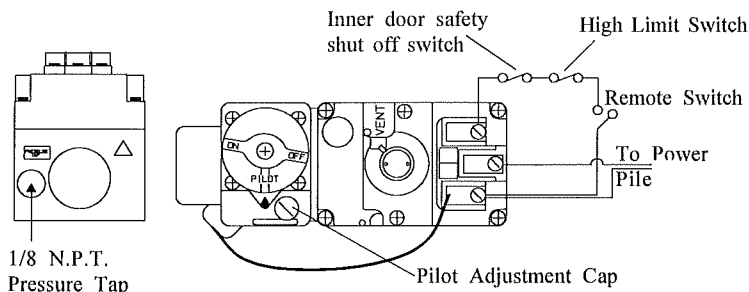

FIGURE 8. GAS CONTROL VALVE
The **Montigo 36SH** is equipped with a remote-operated valve, located behind the removable brass grille, to the right of the gas control valve (refer to figure 8.) The valve is pre-wired and completely self contained to generate its own power **DO NOT** connect any external power to it. **Note:** The switch location must not exceed 30' from fireplace.
To light pilot it is necessary that you remove outer and inner glass door (refer to sections on glass door removal). The gas control valve is located behind the brass trim in the centre of the fireplace (see Figure 8 below). Before lighting the pilot, make sure that the gas line is connected and the gas shut-off valve is turned to the ON position. To light the pilot we recommend the use of a long match or removal of logs "B" & "C":
- Remove Pilot Adjustment Cap. (see figure 8)
Have the fireplace installation inspected yearly, including a visual check of the vent system, the burner and the pilot flame. For your convenience a 1/8" pressure tap is supplied on the gas valve for a test gauge connection. See Figure 8. This appliance requires a minimum gas pressure of 7" W.C. for natural gas and 12" WC for propane. Always keep the fireplace area clear and free of combustible materials, as well as gasoline and other flammable vapours and liquids.
Pilot won't ignite	Disconnect remote wires and try to light pilot. If pilot now works, remote connections are faulty. Check wiring diagram figure 8 .
Main burner will not light	<ol style="list-style-type: none"> <li>1. Check wiring (see figure 8.)</li> <li>2. Check wall switch for proper connection.</li> <li>3. Check door safety switch located center of bottom door rail</li> <li>4. Burner ignites, adjust activating pin bottom center of inner glass door.</li> <li>5. Burner does not ignite, check electrical contacts of the door safety switch</li> </ol>